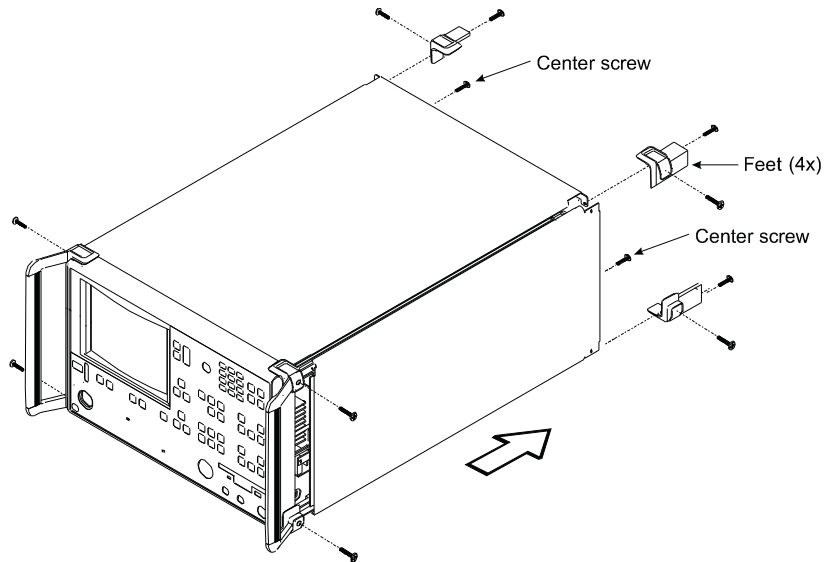

Figure 2-1. Removing Cover
- Step 3. Using a Phillips screwdriver, remove the two handles or four bumper assemblies (and tilt bail, if installed) from the front of the unit, and the four feet at the rear (Figure 2-1). Save the screws for later use.